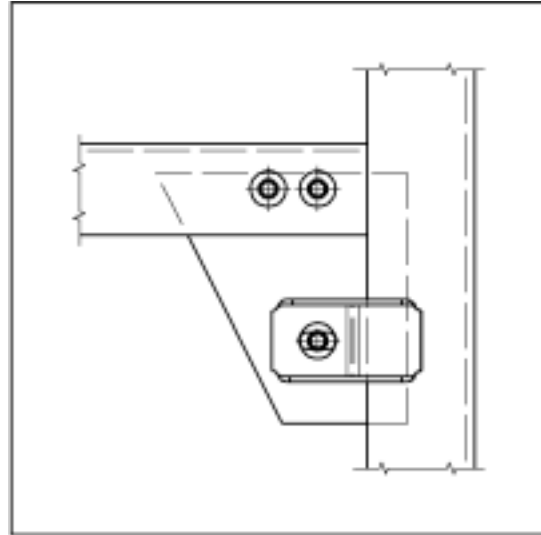

Figure 3—Floor Bracket Bolts Part Number 1139559
2. After 2000 miles, tighten quarterly to 70 to 80 foot-pounds. **Figure 3—Floor Bracket Bolts Part Number 1139559 GM.**